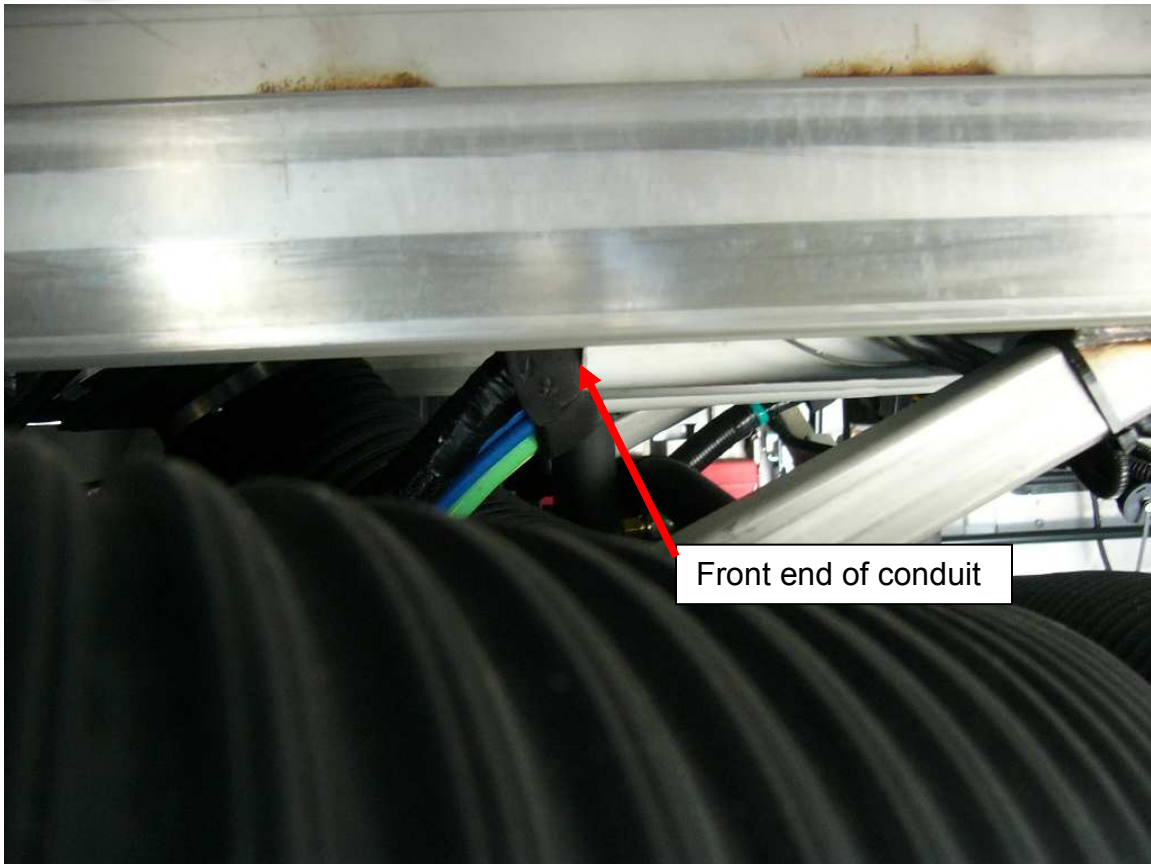

Figure 3
3. At the front end of the white conduit, route the harnesses around the heater box and down into the front service bay area (under the driver) as shown in Figures 3 thru 5. Leave any extra harness length coiled up in the service bay.